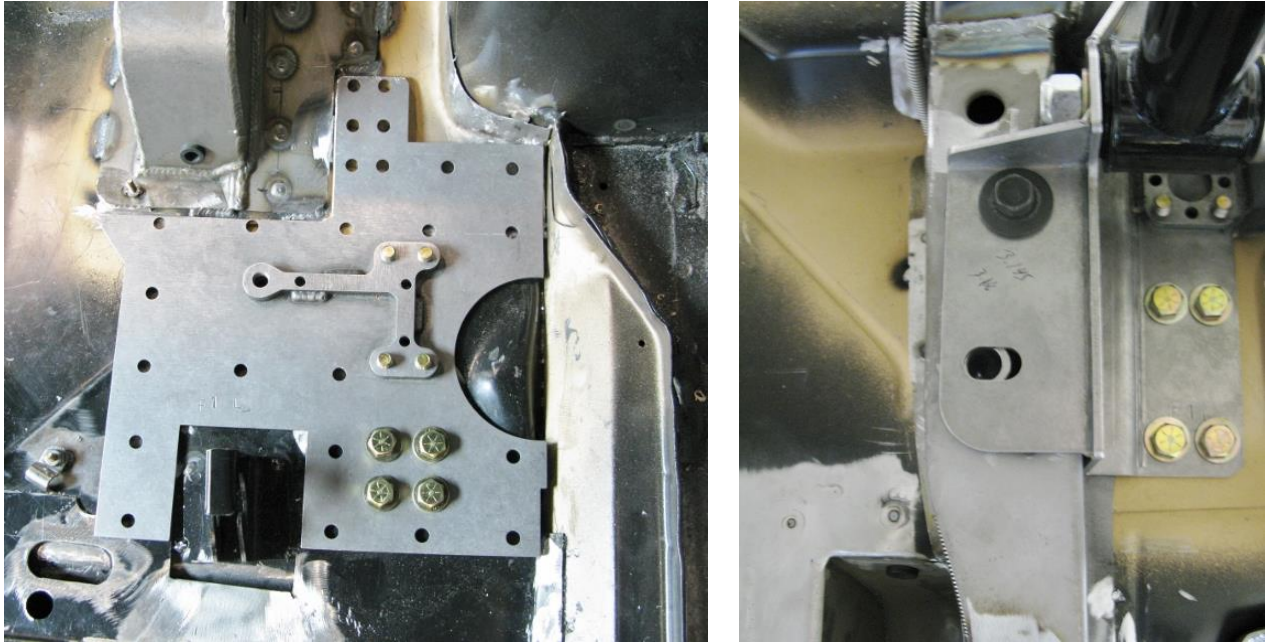

Figure 8 - Install the Spring Pocket and Floor Pan Doubler
21. Bolt the floor pan doublers and the DSE pocket assemblies back into the vehicle using the stock bolts as well as eight of the provided 3/8"-16 x 1" L bolts and washers. Four of them will install into the nut plate from the inside of the vehicle and the other four will bolt into the nut plate from underneath the vehicle (Figure 8 on the next page). Do not torque the bolts at this time.